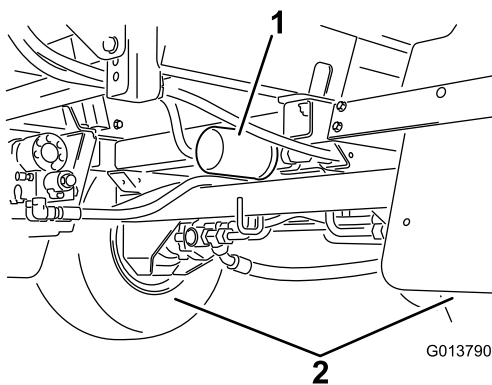

Figure 97
2. Locate the 2 hydraulic filters on the machine (Figure 96 and Figure 97).